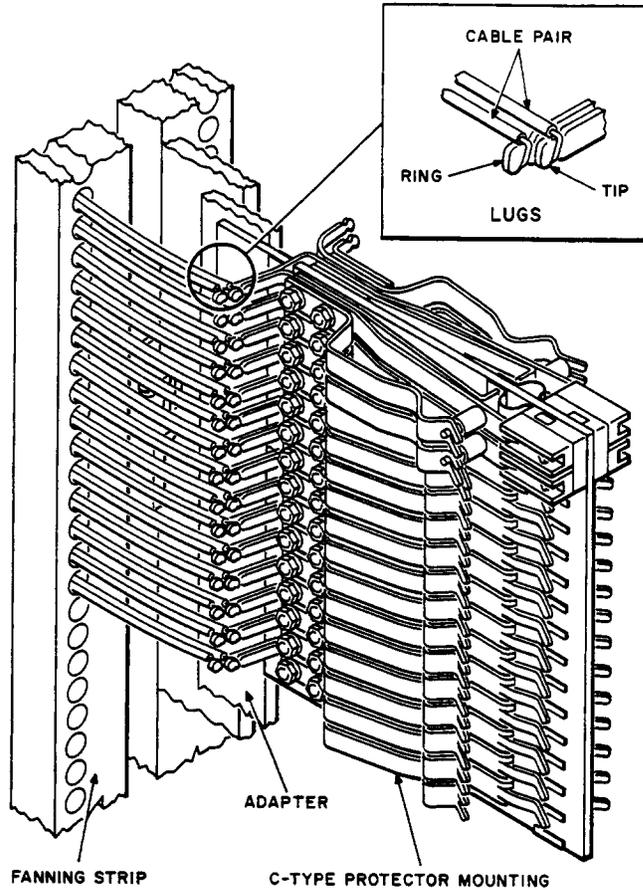

Figure 29—C50 and C52 Protectors
6.13 The C50 and C52 protectors (Figure 29) terminate outside plant cables requiring voltage and sneak current protection on double-sided protector